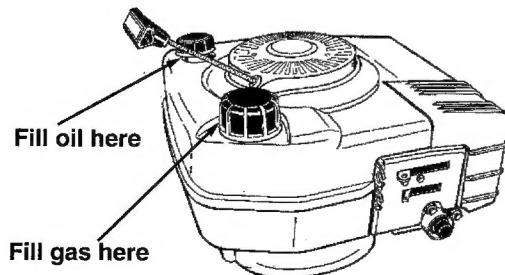

Figure 7
(Refer to Figure 7)
- Fill oil sump and check the oil level. See Figure 7.
- Clean area around fuel cap. Remove cap. See Figure 7.